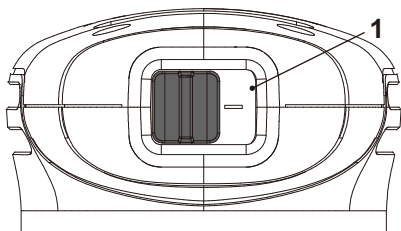

Fig. 10
1. To switch on the power tool, slide the on/off switch (1) fig.10 to the left so that "I" appears on the switch.